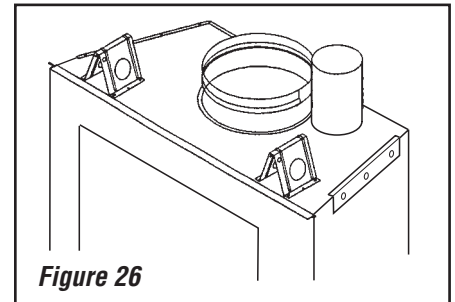

Figure 26
Step 5. Attach the cold climate kit, around the chimney collar with the screws provided (see **Figure 26**).